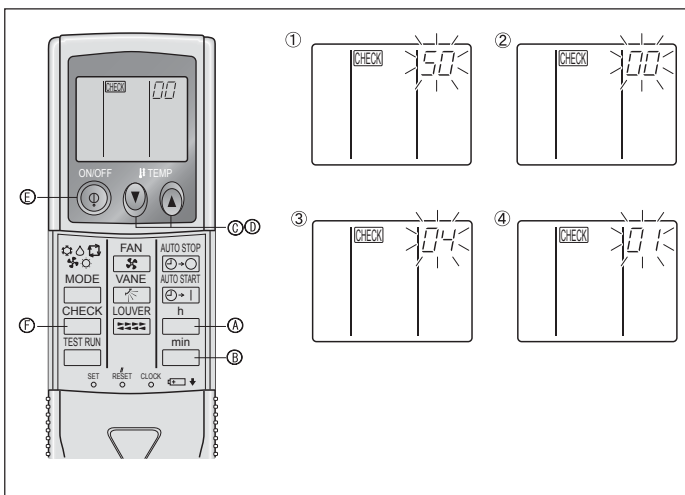

Fig. 6-9
⑧ Press the MODE button \odot and mode and the setting number (I) and (II) will change to being on constantly and the contents of the setting can be confirmed.
⑨ Press the FILTER Δ and TEST RUN \odot buttons simultaneously for at least two seconds. The function selection screen will disappear momentarily and the air conditioner OFF display will appear.
2) For wireless remote controller (Fig. 6-9)